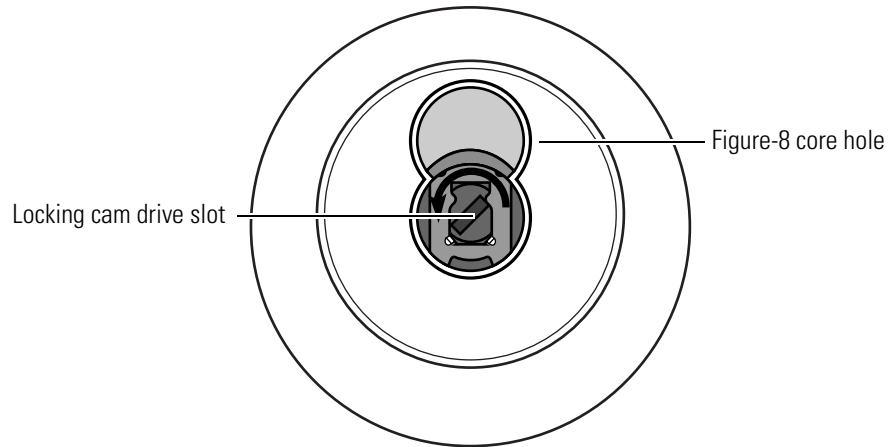

Figure 3.33 Intermediate position of the G function locking cam
- Looking into the figure-8 core hole in the other knob, turn the locking cam drive slot until it stops, as shown in Figure 3.33.